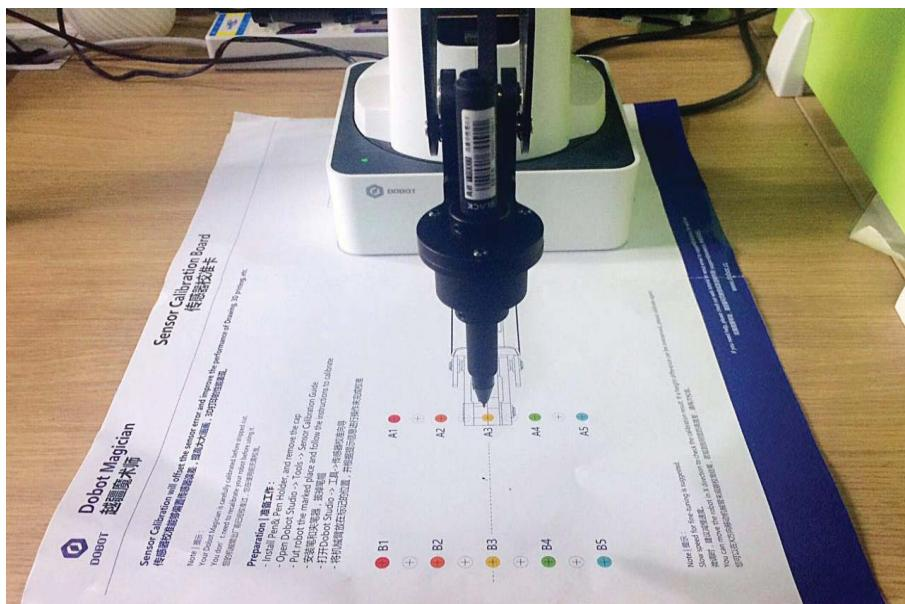

Figure 5.158 Location of Dobot Magician
- Step 1** Place the Dobot Magician at the right position on the sensor calibration board, as shown in Figure 5.158.